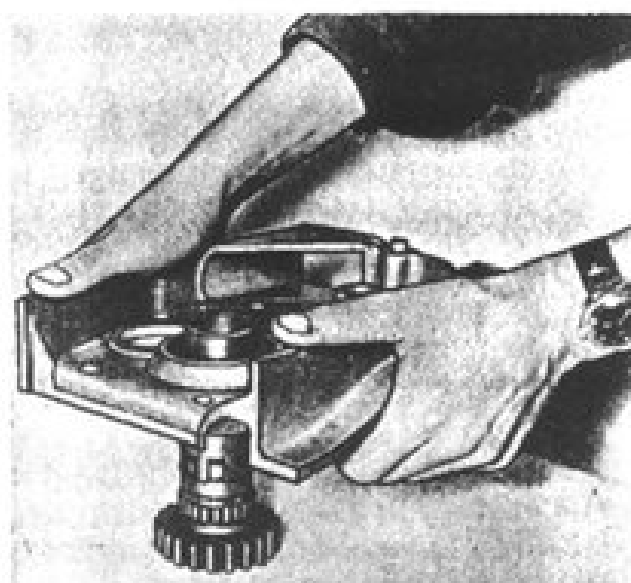

Fig. 15. Mainshaft mounting in gearbox cover.
5. Set a special bush 4, Set No. 2 (Fig. 15), on the mainshaft to prevent damaging the oil seal operating edge. Insert the mainshaft into the cover, get the bush off.